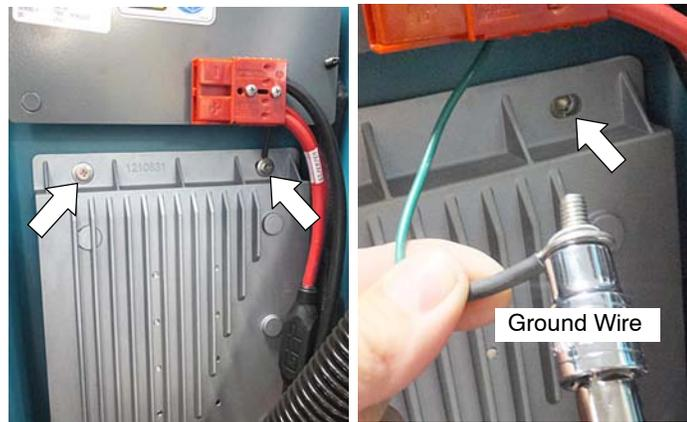

Fig. 12
- Re-install the heat-sink panel to machine. Make sure to reconnect ground wire to panel (Figure 12).